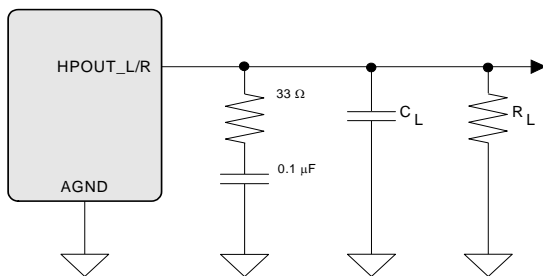
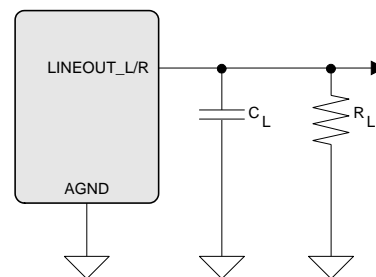

Figure 3. Output Test Load, Headphone Out
Figure 4. Output Test Load, Line Out
(Test conditions (unless otherwise specified): Input test signal is a full-scale 997 Hz sine wave; $V_D = 1.8$ V; $V_{L_HD} = V_{L_IF} = 3.3$ V; $T_A = +25^\circ\text{C}$; Measurement bandwidth is 10 Hz to 20 kHz; test load $R_L = 10$ k Ω , $C_L = 10$ pF for the line output and test load $R_L = 16$ Ω , $C_L = 10$ pF for the headphone output (see Figure 3); DAC Gain = 0 dB).
7. See Figure 3 and Figure 4. R_L and C_L reflect the recommended minimum resistance and maximum capacitance required for the internal op-amp's stability and signal integrity.